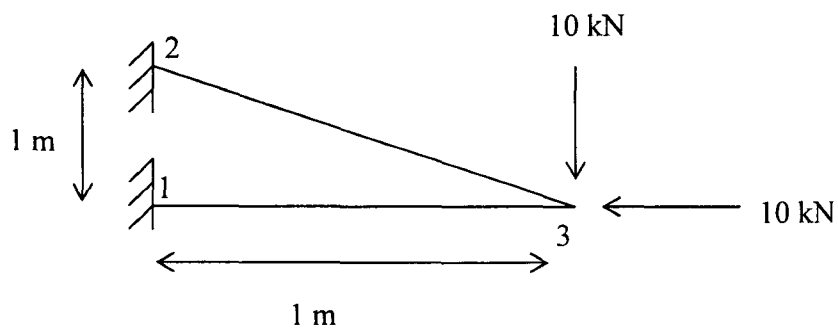

Figure 6
6. A two dimensional structure in Figure 6 has dimensions in arbitrary units. Using Finite Element Method, determine